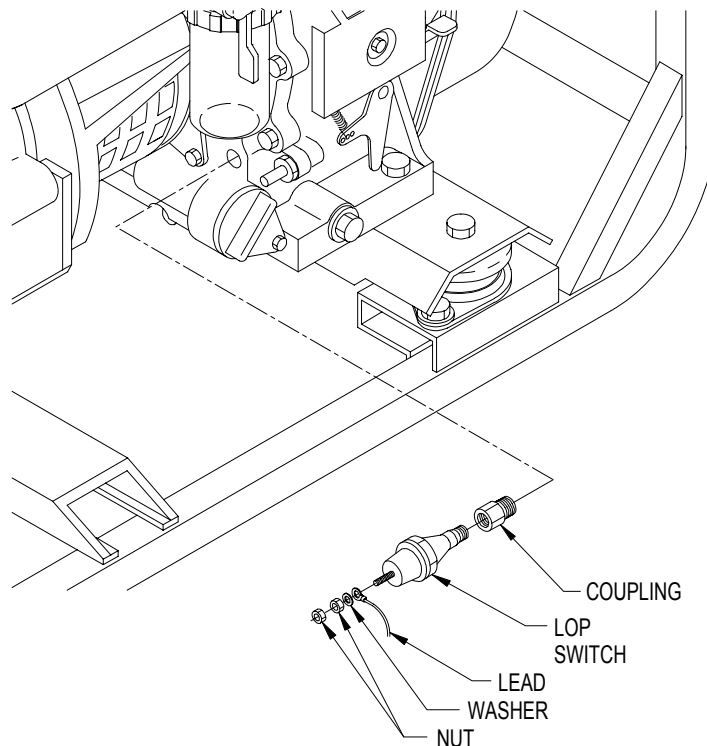

Figure 4-47. Low Oil Pressure (LOP) Switch
- (1) Shut down generator set.
- (2) Disconnect and isolate electrical lead from LOP switch (Figure 4-47).
- (3) Using multimeter set for ohms, check for continuity between LOP switch terminal and ground. If continuity is not indicated, switch is defective and must be replaced.
- (4) Start generator set.
- (5) Using multimeter set for ohms, check for continuity between LOP switch terminal and ground. If continuity is indicated, switch is defective and must be replaced.
- (6) Shut down generator set and connect electrical lead.
- (1) Shut down generator set and drain diesel engine oil.
- (2) Cut tie wraps as necessary. Then disconnect electrical lead from LOP switch (Figure 4-47).
(1) Apply thread sealant (Item 20, Appendix E) to threads of LOP switch (Figure 4-47). Then assemble LOP switch and coupling.
(2) Apply thread sealant (Item 20, Appendix E) to threads of coupling. Then install coupling in diesel engine block.
(3) Connect electrical lead.
(4) Use tie wraps to secure wiring to LOP shutdown cable as removed.
(5) Service diesel engine oil.